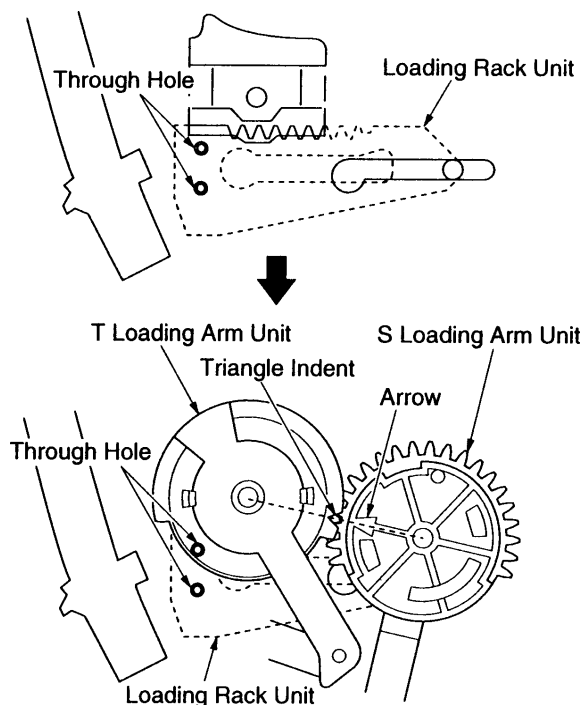

Fig. 22 - T-Loading Arm Unit/S-Loading Arm Unit Removal
1. Release one (1) locking tab (J) and pull up the T-loading arm unit to remove it.
**Note:** When reinstalling, slide the loading rack unit so that the holes on the chassis align properly. Install the S-loading arm unit onto the chassis. Install the T-loading arm unit so that the triangle shaped indent is aligned with the arrow on the S-loading arm unit as shown in Fig. 22. Confirm that each of the holes in the T-loading arm unit, the chassis and the loading rack unit are aligned (through holes).